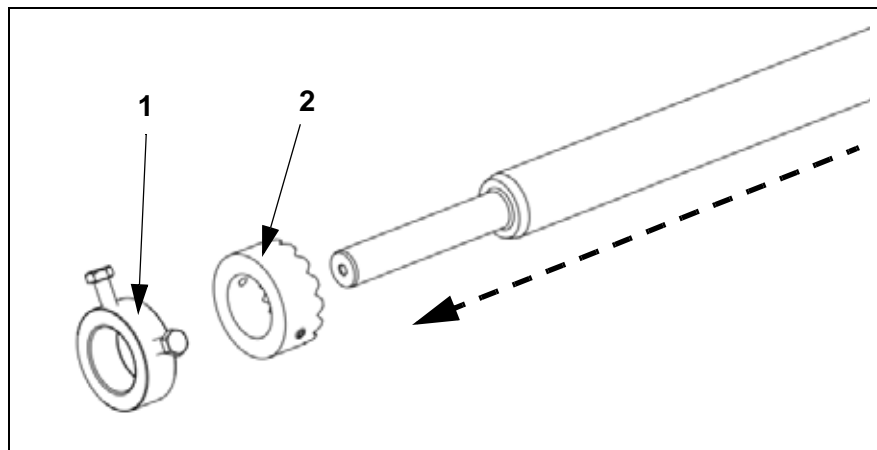

Fig. 15: De-installation of the cleaning elements
2. Pull the angled gearbox motor (1, Fig. 15) off the shaft of the secondary cleaner and lay it on a level, firm surface or secure appropriately.
3. Loosen the bolts from both sides of the pillow block (3, Fig. 15) and pull it and the main shaft with the pillow blocks from the chute.